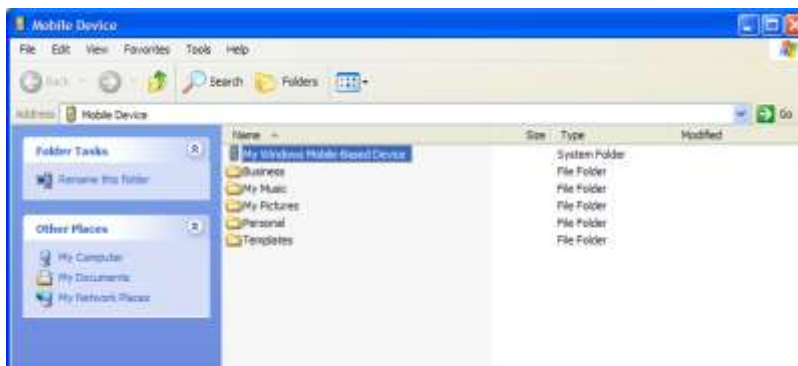

Figure 30: Mobile device window.
4. Access the PDA Operating system and memory by selecting the **Explore** icon. This will access the Mobile Device window (Figure 30).